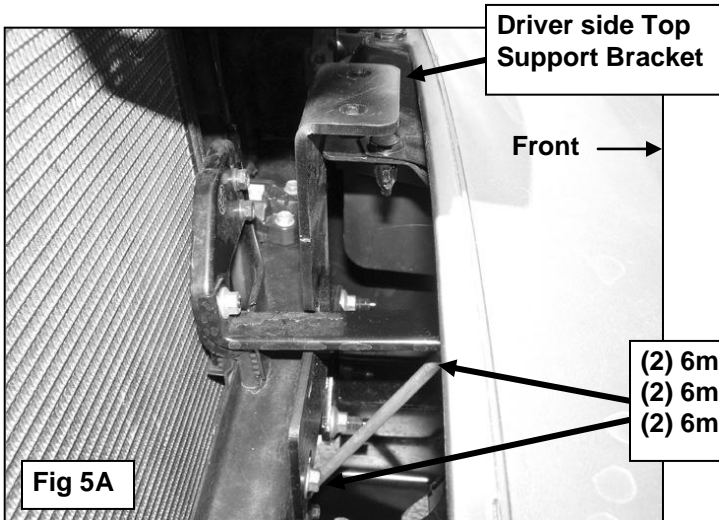

Fig 5A
- Select the driver side Top Support Bracket, **(Figure 5B)**. Line up the holes in the bottom of the Support Bracket with the threaded holes in the crossmember. Bolt the Support Bracket to the crossmember with (2) 6mm x 25mm Hex Bolts, (2) 6mm Lock Washers and (2) 6mm Flat Washers, **(Figures 5A – 5C)**. **NOTE:** Replace factory 6mm screws, (if equipped), from crossmember with 6mm hardware. Fully tighten the 6mm hardware only at this time.